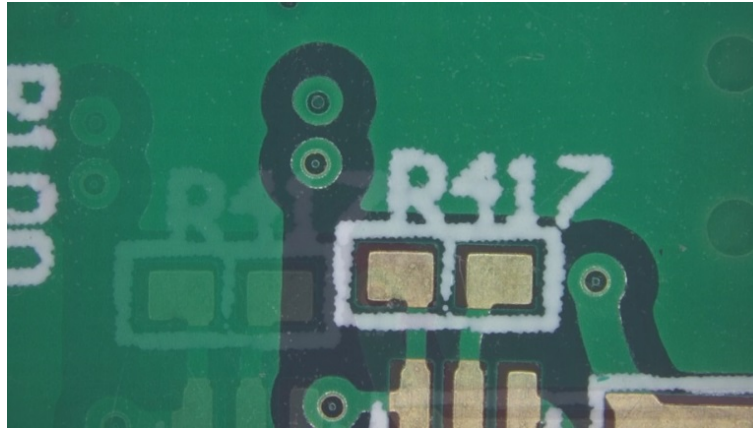
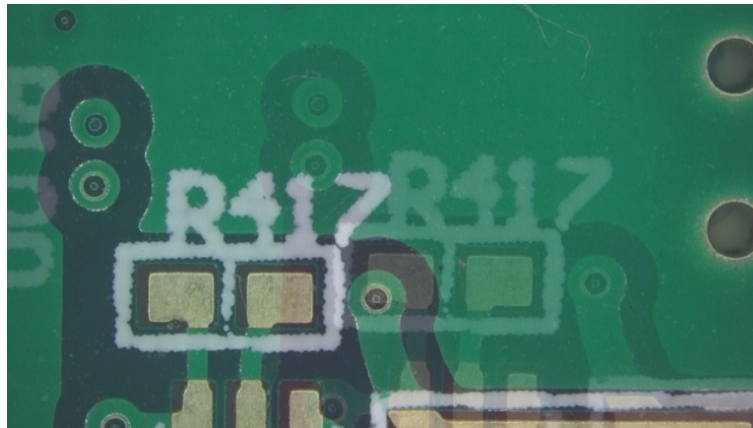

Fig 5-54 Transparency in 15%
Fig 5-55 Transparency in 75%
- Transparency  : Adjust the transparent level when in comparison mode. The Default level is 50%, drag the bar to adjust level. Fig 5-54 is the transparency in 15%, Fig 5-55 is in 75%.